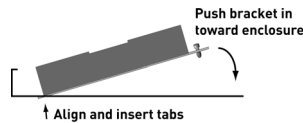

Figure 3
2. Align tabs on the mounting bracket with slots in the enclosure (see **Figure 3**).